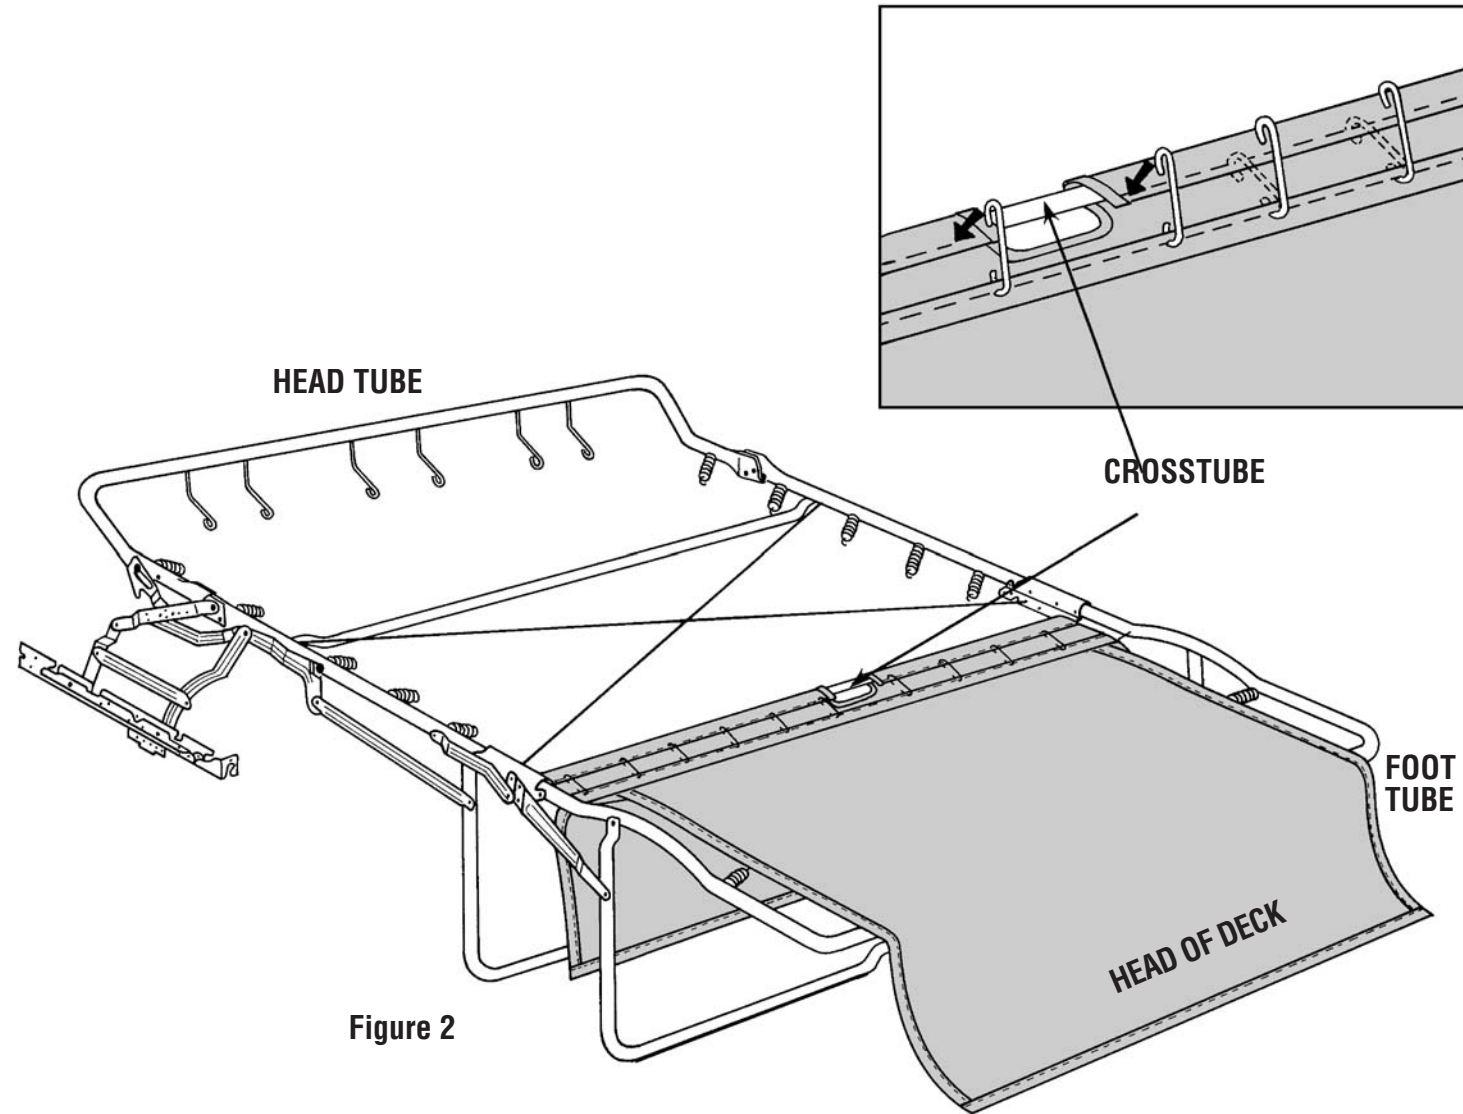

Figure 2
1. To attach the new deck to the crosstube as shown in Figure 2, flip the head of the deck over foot tube. Make sure the folded edge of the hem is facing down. Starting on either side of the hand hole, punch hooks through deck as shown in the close-up illustration. Since the hand hole is off-center, there may be an uneven number of hooks on each side.